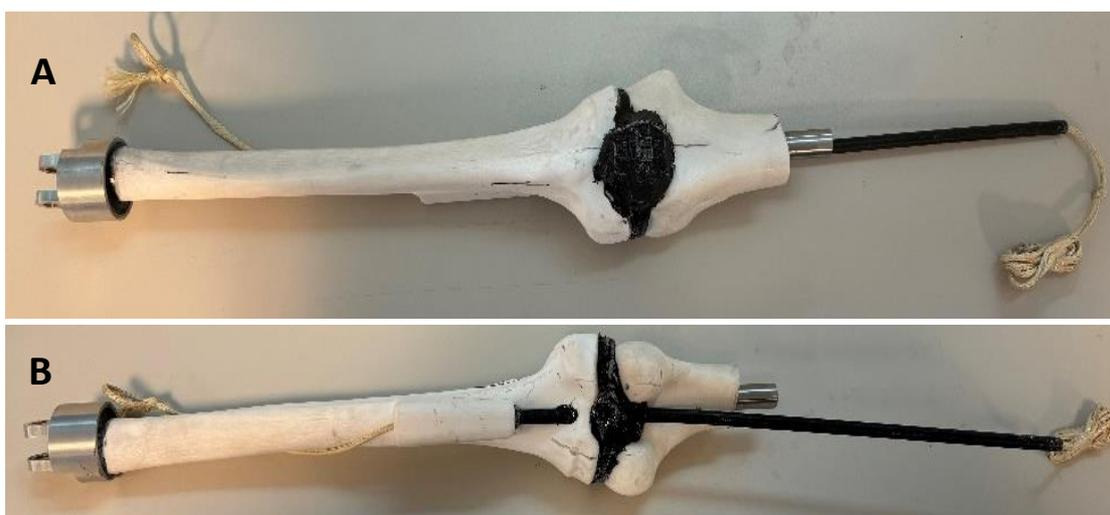

Figure S1: (A) anterior and (B) posterior views of aligned knee assembly.
10. Press fit the two brass bearings into the proximal aluminum ankle where the axel will be inserted. (See Figure S1) 52